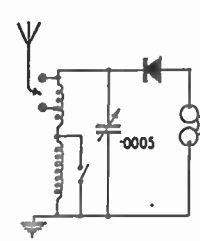

Fig. 1—Circuit
Fig. 1 shows the shapes to which the piece of wood must be cut. Three pieces of shape (X) must be cut, making eight pieces in all. Providing a thin saw is used with great care no allowance is necessary for the saw-cut waste.